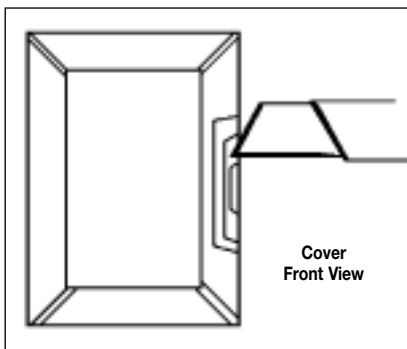

Figure 2
2. Notch proper knockout in cover using knife. (See Figure 2.) Use pliers to remove knockout inward for cleaner edge. (Trimming may be necessary.)